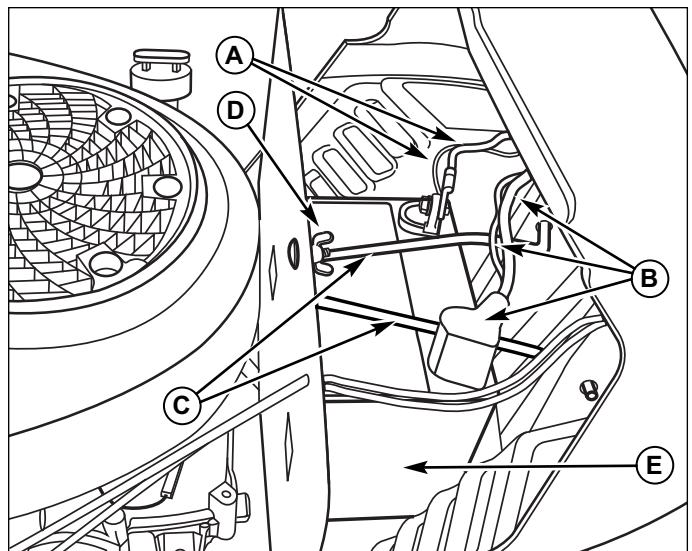

Figure 12. Battery Maintenance
1. Disconnect the cables from the battery, negative cables first (A, Figure 12) then the cover and positive cables (B).
2. Loosen the wingnut and washer (D).
3. Pivot the hold-down rod (C) up and away from battery. Secure to steering tower.
4. Remove the battery (E).
7. Reinstall the battery (E) in the battery compartment. Secure with the battery hold-down rod (C) and wingnut and washer (D).
8. Re-attach the battery cables, positive cables and cover first (B) then the negative cables (A).